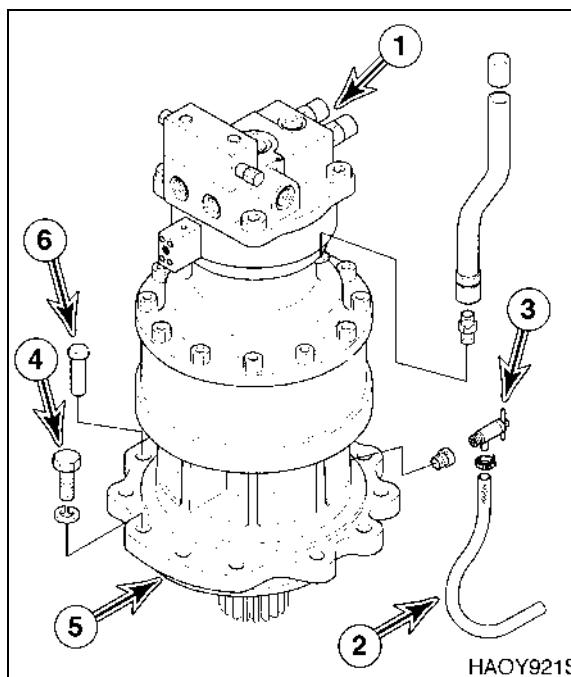

Figure 6
7. Tag and disconnect hoses from swing motor (1, Figure 6). Plug and cap hoses and port to prevent contamination from entering hydraulic system or component.
8. Disconnect tube (2) from drain valve (3)
9. Remove eleven bolts and washers (4, Figure 6) holding swing reduction gearbox (5) to frame.
10. Using a suitable lifting device, sling swing motor (1, Figure 6) and remove swing motor and reduction gearbox (5) as an assembly from unit.
NOTE: A drain valve (3, Figure 6) and tube are located on side of gearbox. Be careful not to damage valve or tube.
NOTE: There is one alignment pin (6, Figure 6), located on side of reduction gearbox flange.